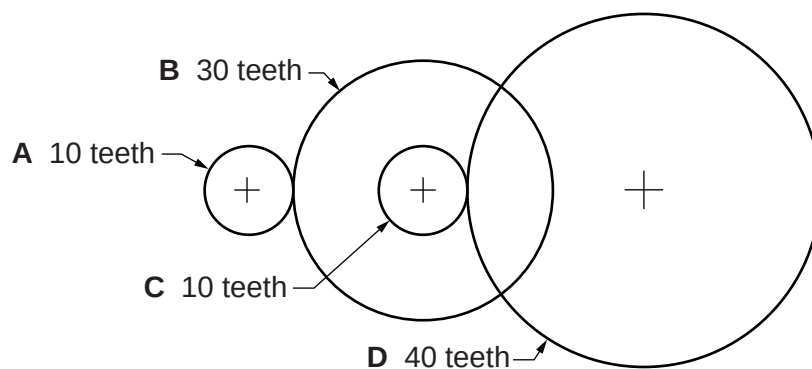

Fig. 3
5 Fig. 3 shows a gear train.
- (ii) Calculate the gear ratio of the compound gear train shown in Fig. 3. [3]